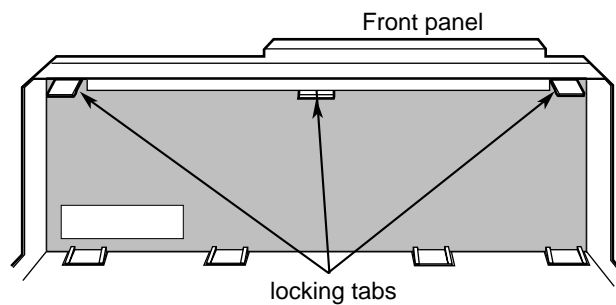

Figure 2-15 Locking Tabs for the Front Panel on the 8-Slot Chassis
- a From inside the chassis, press down on the locking tabs to release them (see Figure 2-15).